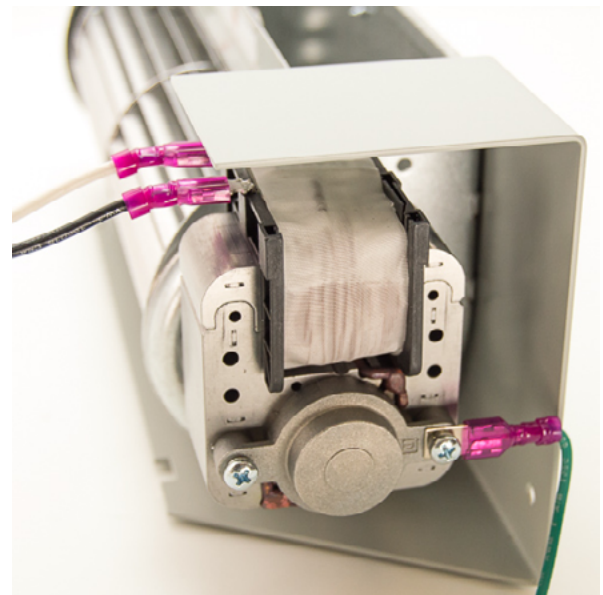

Figure: 1
Step 2: Push the Green Ground Wire disconnect onto the ground tab on the end of fan. (Figure: 1)
Connect white and black wires of the cord set to either of the two spade terminals attached to the motor. Push disconnects onto metal tabs. (Figure: 1)